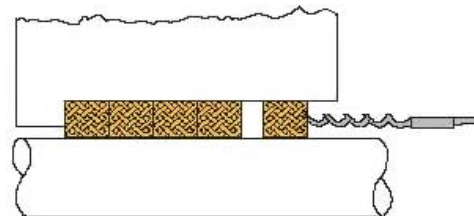

Figure 7. Removing Packing with Hook
5. Refer to Figure 7; remove all old packing rings (180) by using the proper size packing removal hook. The lantern ring (29) will remain on the shaft (6) and should be slid to near the slinger (40).